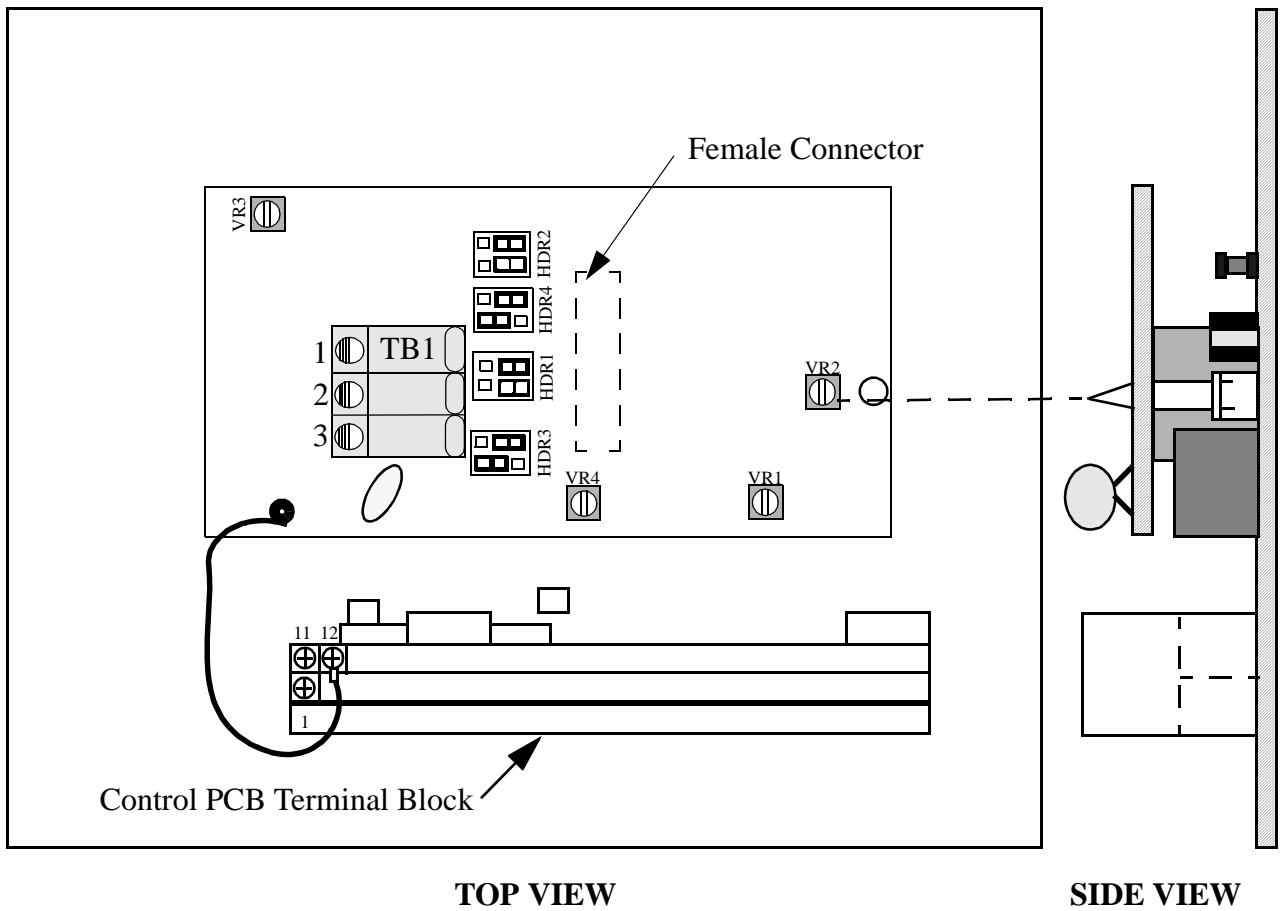

Fig. 1 Location of Isolated Analog Monitor Card AO-12B2
6. Place the Monitor Card onto the standoff post in the Control Board, aligning the Monitor Card's connector with the Control Board's 3CN connector. Refer to *Fig. 1 Location of Isolated Analog Monitor Card AO-12B2*.
8. Connect the Monitor Card's grounding cable (green wire) to the control board's Terminal No.12 (G) ground terminal screw.